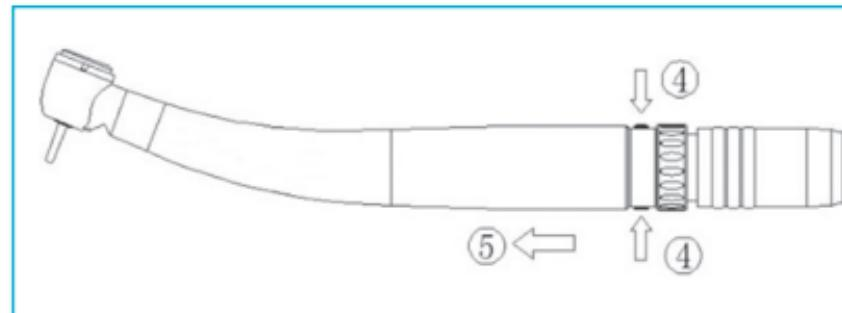

Fig. 6-10
- Hold the LED coupling tightly, press two buttons on the side of the LED coupling (Fig.6-10④).
- Pull the medical device off (Fig.6-10⑤).